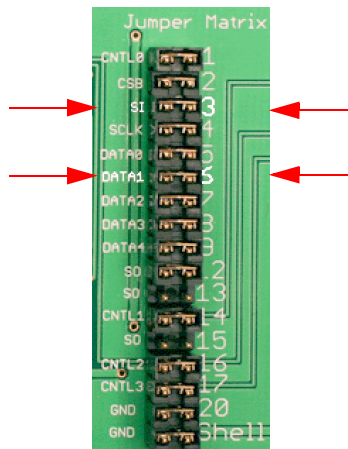

Figure 2. Jumper matrix on KITUSBSPIEVME converter board
3.3 If using the KITUSBSPIEVME, the dongle needs reworked on the SI connection as shown in Figure 2.